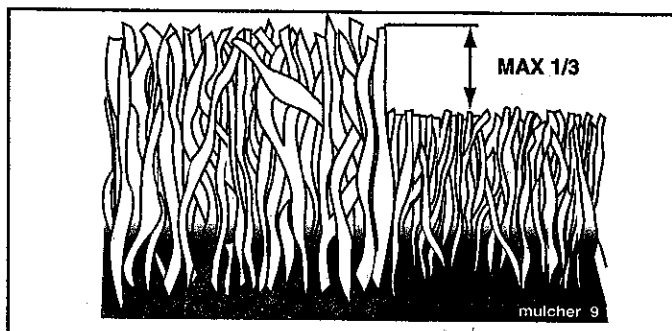

FIG. 5
- For best results, adjust the mower cutting height so that the mower cuts off only the top one-third of the grass blades (See Fig. 5). For extremely heavy mulching, reduce your width of cut and mow slowly.